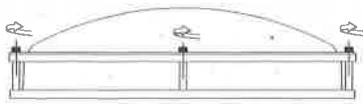

Fig 1
2. Loosen 4 screw anticlockwise (figure 1).